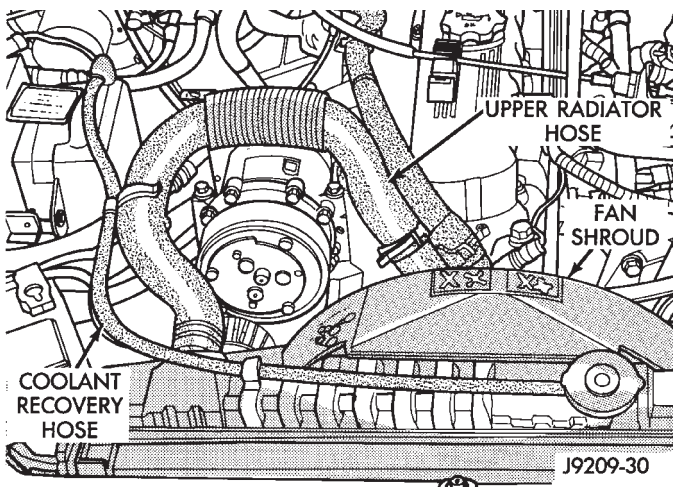

Fig. 29 Upper Radiator Hose, Coolant Recovery Hose & Fan Shroud
(3) Loosen the radiator drain cock and radiator cap to drain the coolant. DO NOT waste usable coolant. If the solution is clean, drain the coolant into a clean container for reuse.
(4) Remove the air cleaner assembly.
(5) Remove the lower radiator hose.
(6) Remove the upper radiator hose and coolant recovery hose (Fig. 29).
(7) Remove the fan shroud (Fig. 29).